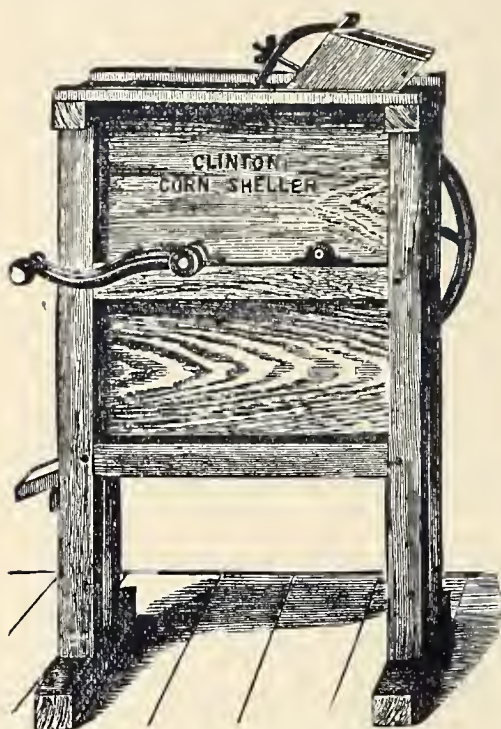

Fig. 409. — Clinton Corn-Sheller.
*The Clinton Corn-Sheller*, represented by *Fig. 409*, is used for shelling the small and medium sized varieties of Indian corn. It is made with either one or two hoppers. The Single-hopper Sheller is furnished either with one or two outside balance-wheels; the Double-hopper Sheller always with two outside balance-wheels. By the use of two wheels, the Sheller runs more steadily, and with greater ease to the workman.